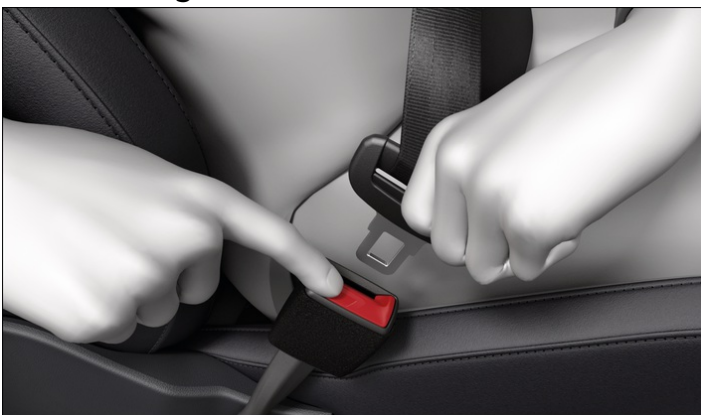

Fig. 2 Removing the latch plate from the buckle.
1. Press the red button in the buckle → Fig. 2.